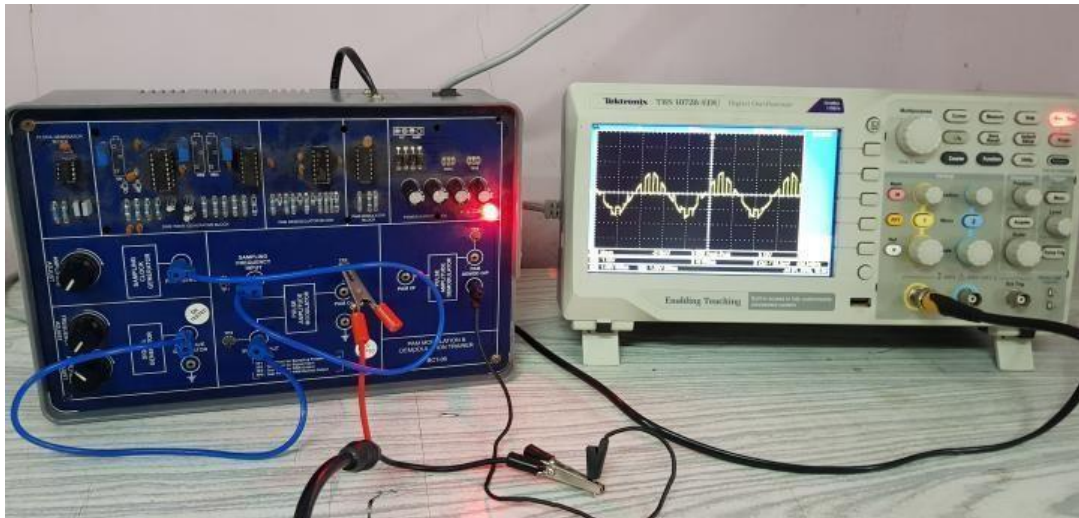

Figure 7.5: Practical set up for Natural sampling
- ii. Make the connection as per the Figure7.5.